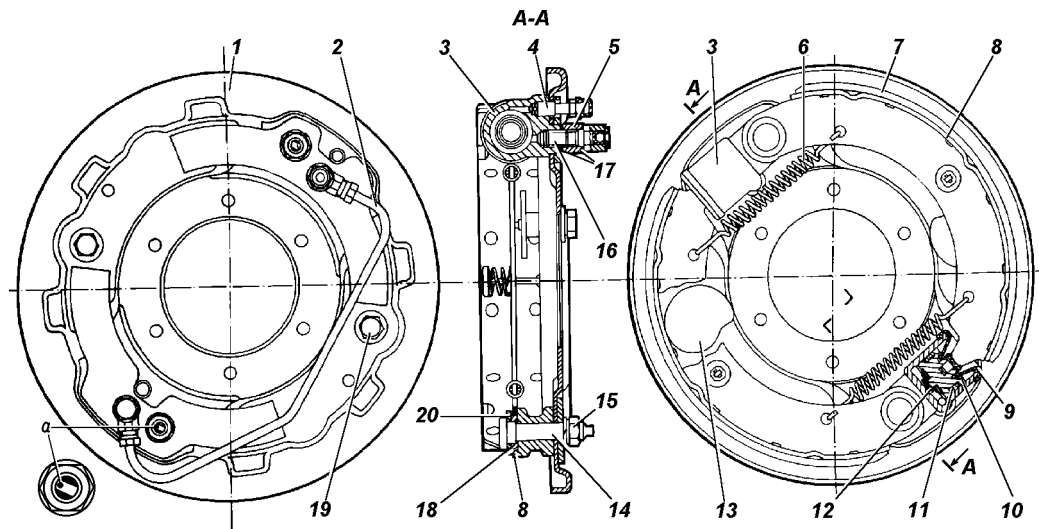
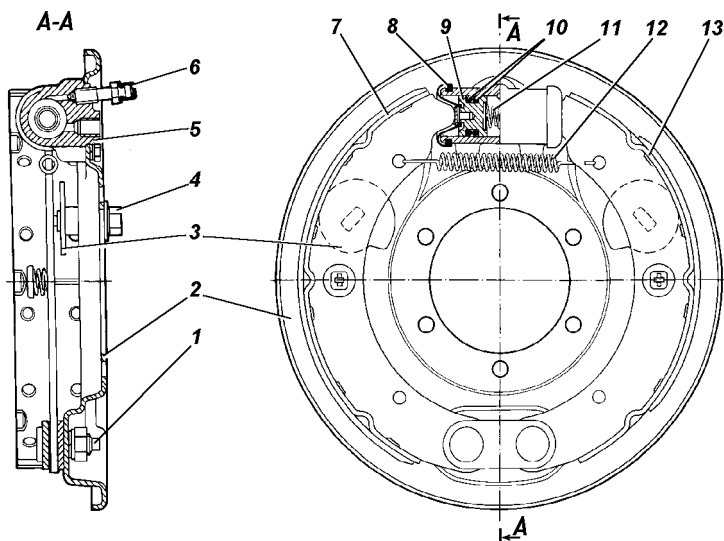

Fig. 70. Front Wheel Brake:
Fig. 71. Rear Wheel Brake:
3. Rotate the wheel and gradually turn the adjusting eccentric 19 (Fig. 70) or 4 (Fig. 71) until the wheel is braked (Fig. 71).